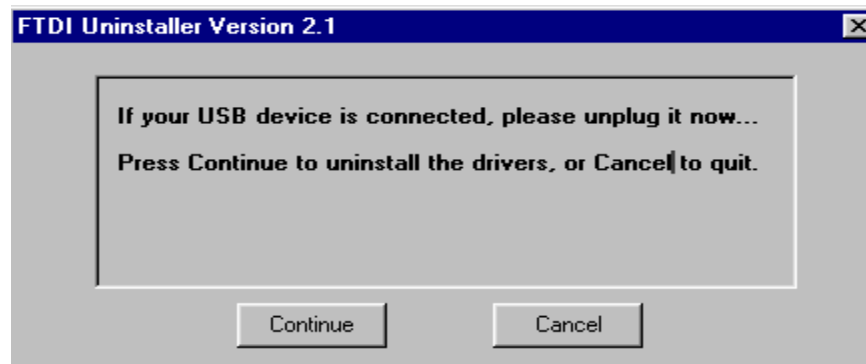

Figure 38
6. Click **Continue** on the **FTDI Uninstaller** confirmation panel (Figure 38).